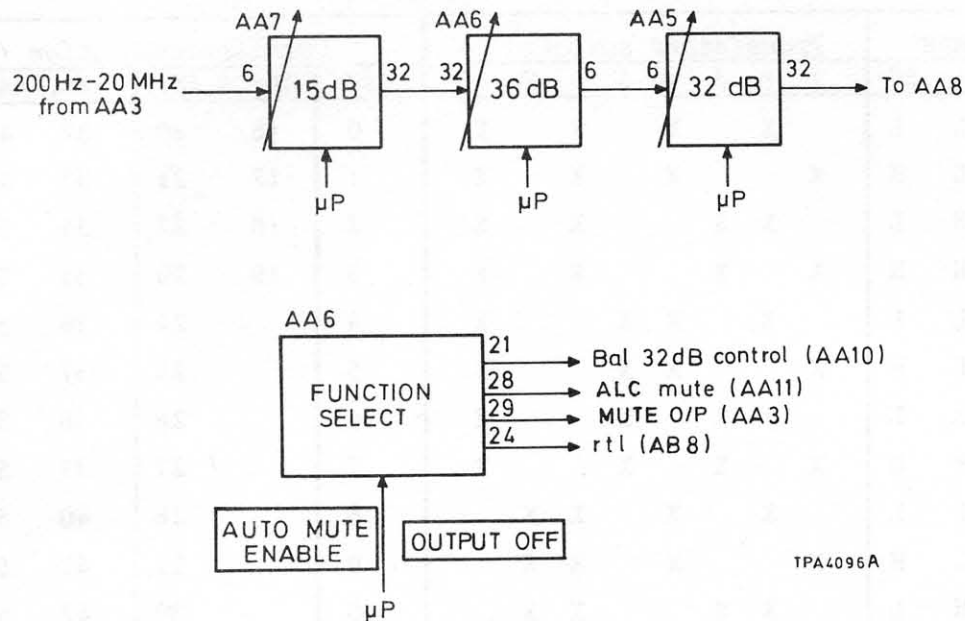

Fig. 12 Programmable attenuators
43. Attenuators operating under microprocessor control (see Fig. 12) attenuate the output signal in 1 dB, 2 dB, 4 dB and 8 dB steps (board AA7), in 16 dB and 20 dB steps (board AA6) and in 32 dB steps (board AA5). Selection of the AA5 32 dB attenuator is by board AA6. This board additionally provides control signals for signal muting when OUTPUT OFF or AUTO MUTE ENABLE is selected, as well as providing the return to local (rtl) signal for the GPIB boards.
Circuit diagram : Chap. 7, Fig. 12